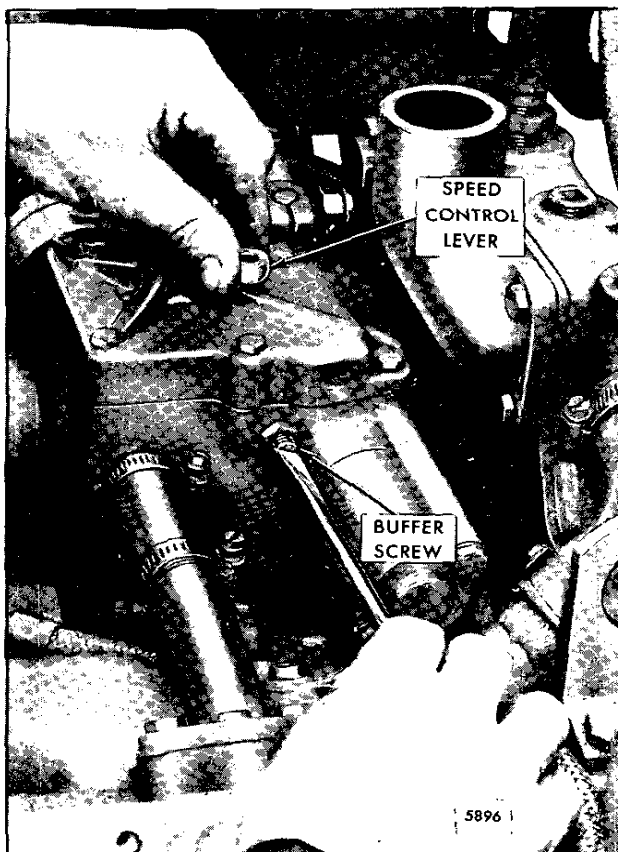

Fig. 3 - Adjusting Buffer Screw
1. With the engine running at idle speed and normal operating temperature, turn the buffer screw in (Fig. 3) so that it contacts the equalizer lever as lightly as possible and still eliminates engine roll. Do not increase the engine idle speed with the buffer screw more than 15 RPM.